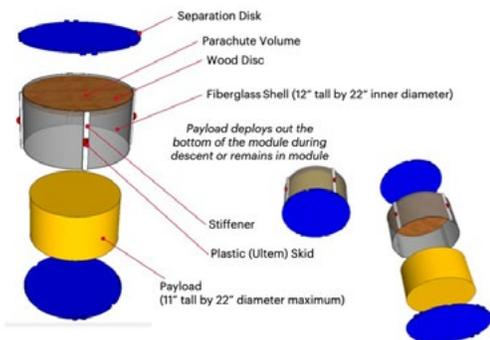

Figure 3. Payload Module Configuration Option 1
- Option 1: The payload deploys through the bottom of the module during descent. (Figure 3)